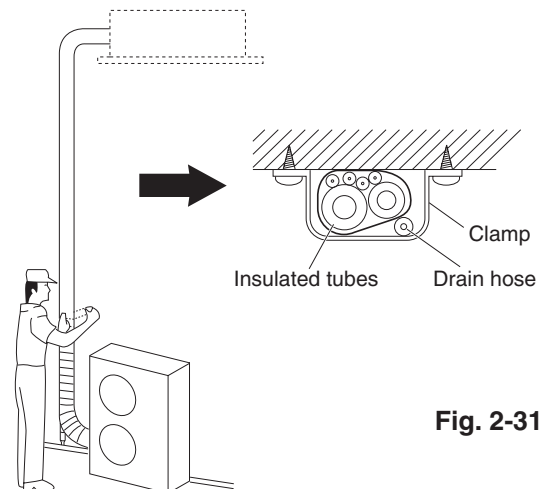

Fig. 2-31
- (1) At this time, the refrigerant tubes (and electrical wiring if local codes permit) should be taped together with armoring tape in 1 bundle. To prevent condensation from overflowing the drain pan, keep the drain hose separate from the refrigerant tubing.
- (2) Wrap the armoring tape from the bottom of the outdoor unit to the top of the tubing where it enters the wall. As you wrap the tubing, overlap half of each previous tape turn.
- (3) Clamp the tubing bundle to the wall, using 1 clamp approx. each meter. (Fig. 2-31)